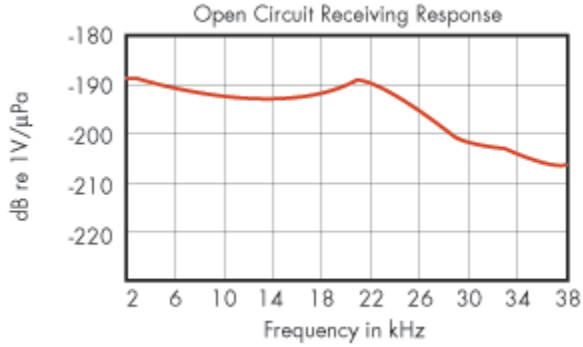

Figure 1 OCRR for ITC1001 spherical transducer.
Open Circuit Receiving Response (OCRR) is defined as the output voltage (V) generated by the transducer per μPa of sound pressure as a function of frequency. OCRR is expressed in dB re 1V/ μPa . The OCRR for the ITC1001 is given in Figure 1. At $f_c=22$ kHz, the OCRR value is -190dB re 1V/ μPa . If the received sound intensity level (SIL) at the transducer is 190 dB re μPa , then at the output of the transducer we will measure